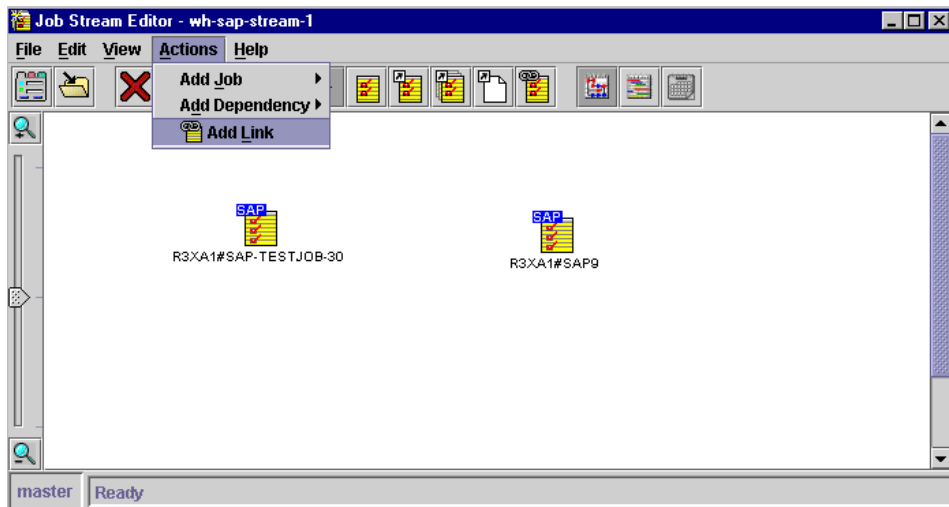
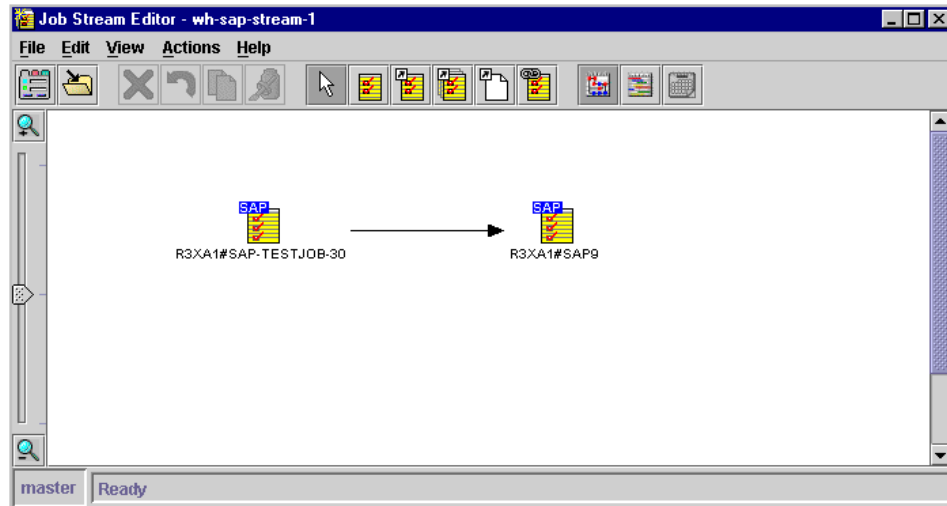

Figure 119. Adding dependencies between jobs
Figure 120. Showing job dependencies
9. If you add two or more jobs, you can specify dependencies between these jobs, such as adding links or specifying external job / external job stream dependencies. This is shown in Figure 119 and Figure 120 on page 194.